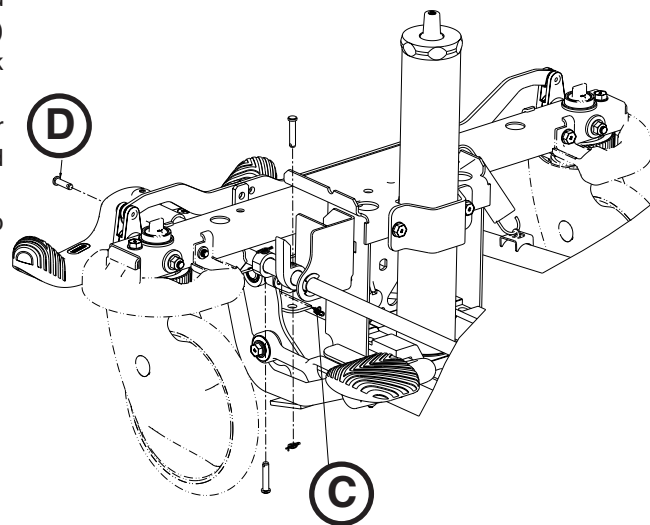
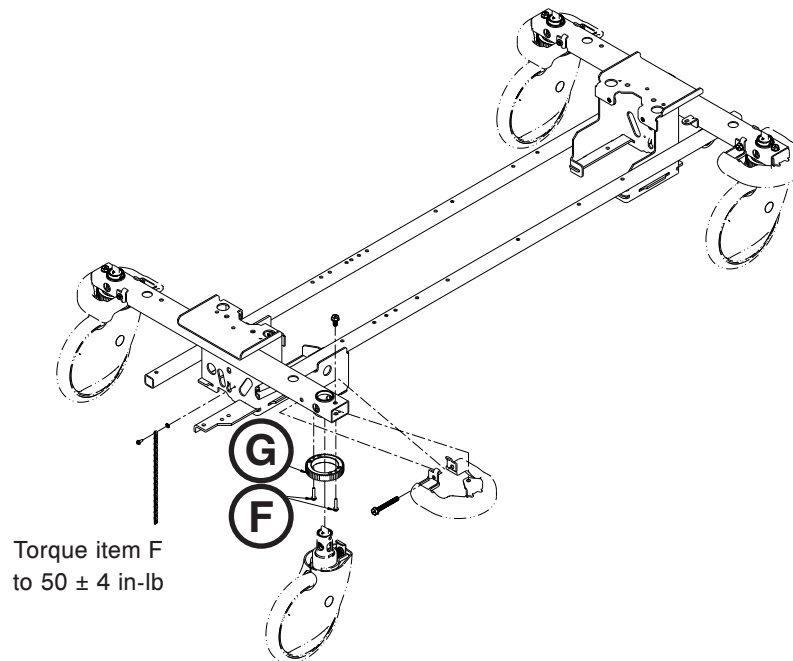

Figure 8
Figure 9
7. Using needle nose pliers, remove the rue ring cotter (C), and then the clevis pin (D) from the brake rod activator (Figure 8).
11. Using a 5/16" socket with a 3/8" drive extension and a 3/8" drive ratchet, remove the two head washer hex screws (F) that secure the caster steer lock gear (G) to the base frame and remove. Discard the caster steer lock gear (G) (Figure 9).
12. Using a 5/16" socket with a 3/8" drive extension and a 3/8" drive ratchet, install the new caster steer lock gear (G).
**Note:** The caster steer lock gear (G) has two dowels that mate to the base frame when installing.
14. Reverse steps to reinstall. Torque the two flange nuts (A) that secure the foot end brake link assembly (B) to the casters to  $80 \pm 20$  in-lb (Figure 8 on page xx). Torque the two head washer hex screws (F) that secure the caster steer lock gear (G) to the base frame to  $50 \pm 4$  in-lb (Figure 9).